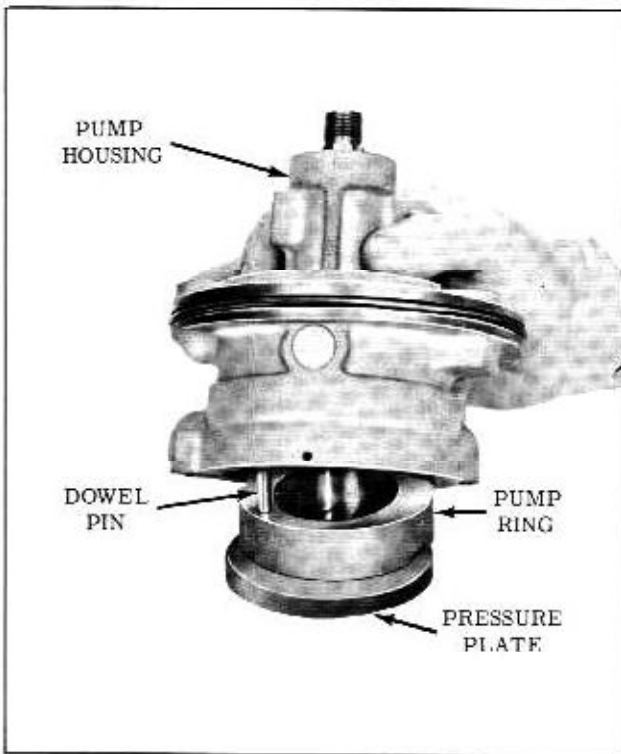

Fig. 4-53 Removing Pump Ring and Vanes
9. Remove pressure plate, pump ring and vanes, being careful not to drop parts. (Fig. 4-53)